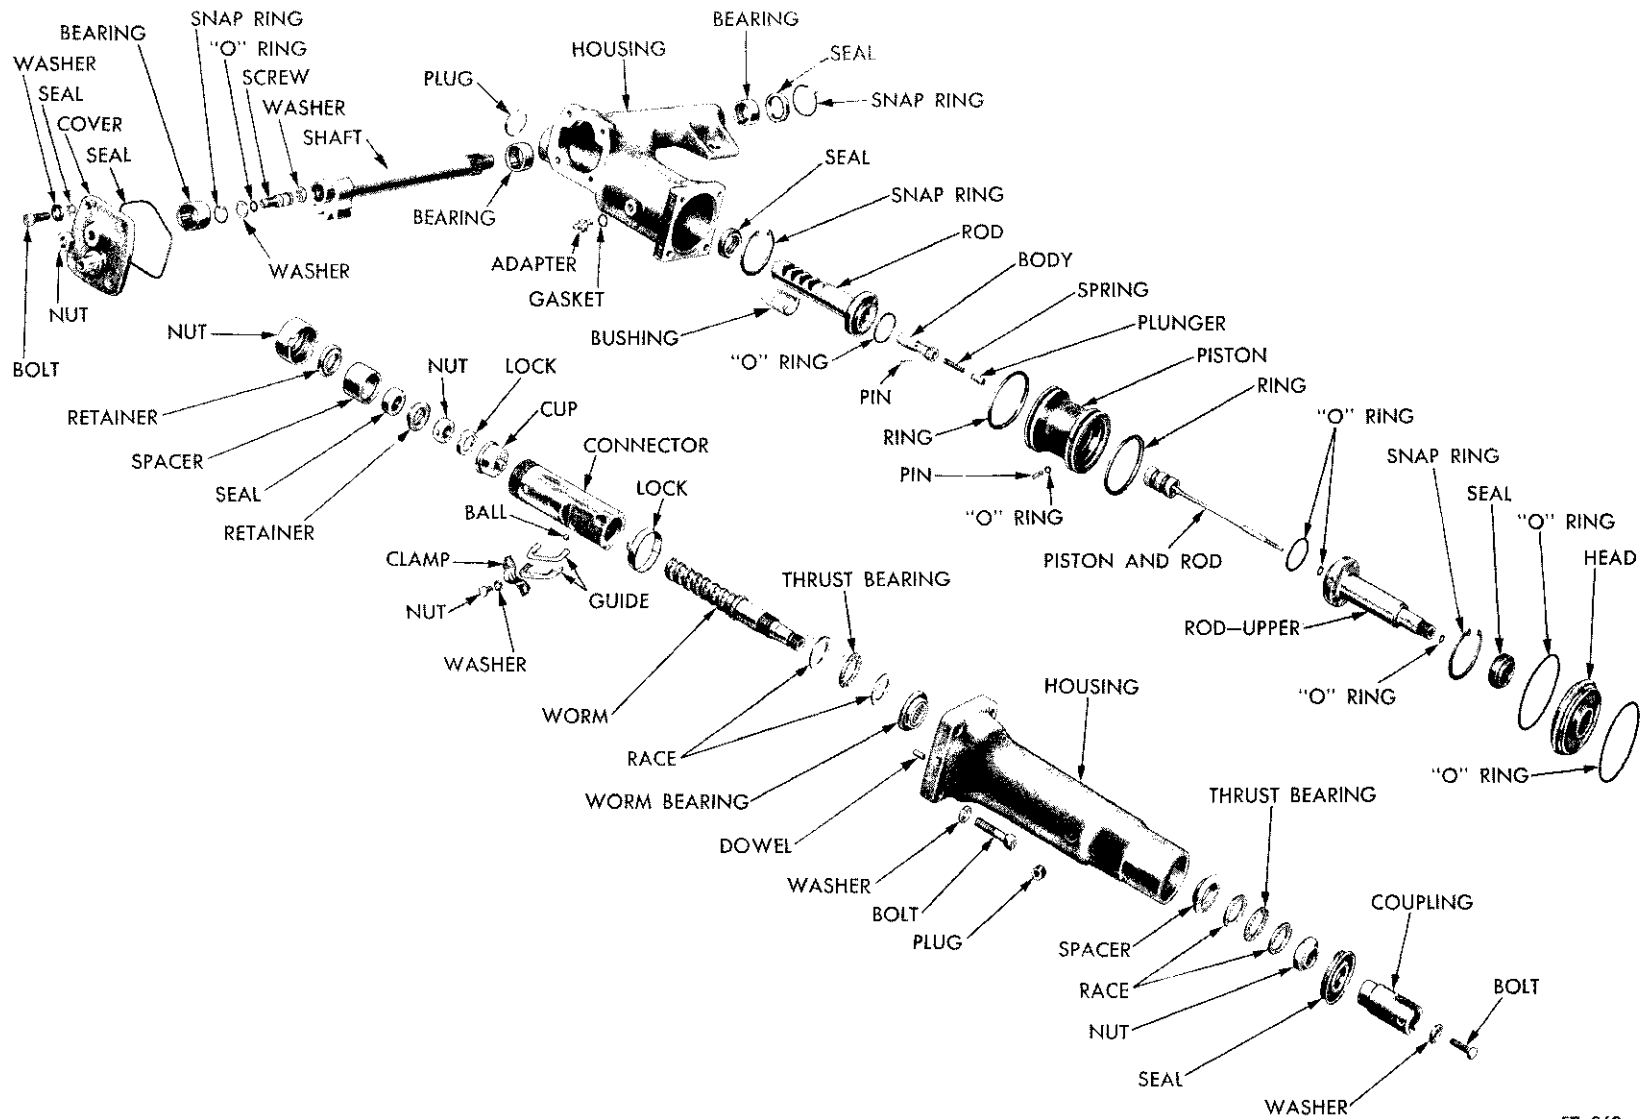

Fig. 6—Coaxial Power Steering Unit (Exploded View)
The new 1957 Chrysler Coaxial Power Steering Unit (Fig. 6) incorporates two basic gear mechanisms, a worm and worm connector, and rack and sector gear.
16. REMOVAL OF WORM HOUSING FROM GEAR HOUSING (Fig. 6)